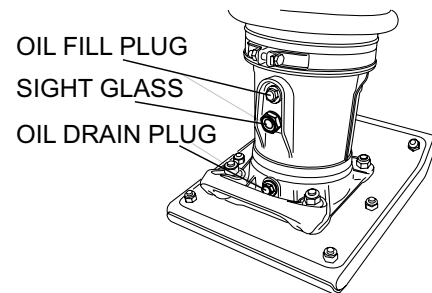

Figure 14. Oil Drain Plug
- Remove the oil drain plug on foot housing (Figure 14) and drain the oil. Refill with approximately 0.8 qt. (0.75 liter) of 10W-30 SE, SF or higher grade motor oil. Oil should be midway in sight glass. Break in oil should be changed after first 50 hours.